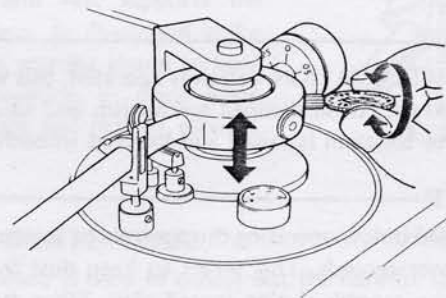

Fig. 18
2. Use one hand to support the tonearm, and the other hand to loosen the adjustment screw with the coin. Place the stylus on the record lightly not to damage, and adjust the tonearm so that it is parallel to the record on the platter and then tighten the adjustment screw (Fig. 18).